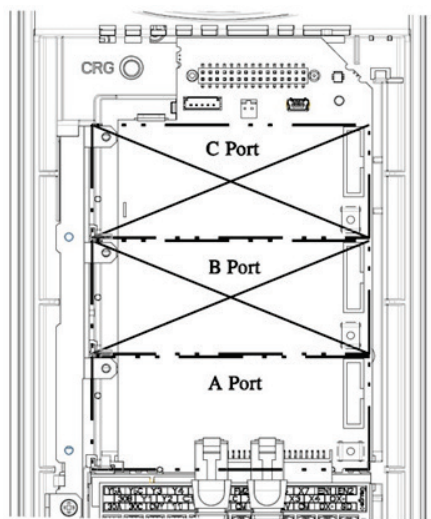

Figure 6: Option Port Locations on 0.4 kW Inverter
1. Remove the front cover from the inverter to expose the control printed circuit board (control PCB). As shown in Figure 6, there are three option connection ports (A-port, B-port and C-port). The card is mechanically keyed for, and can only be installed into, the A-port (bottom-most) position.